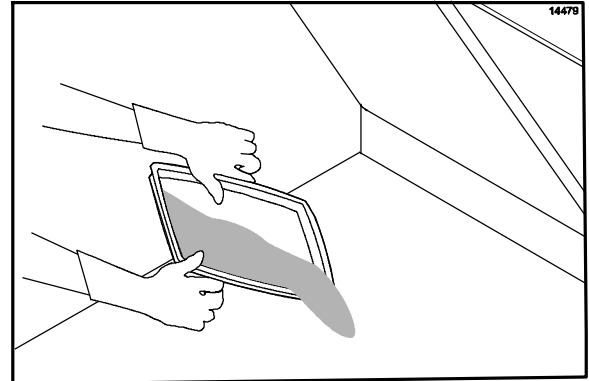

Figure 103
37. Pour the remaining **McD Hi-Temp Grill Cleaner (HTGC)** onto the lower grill surface. (See Figure 103.)